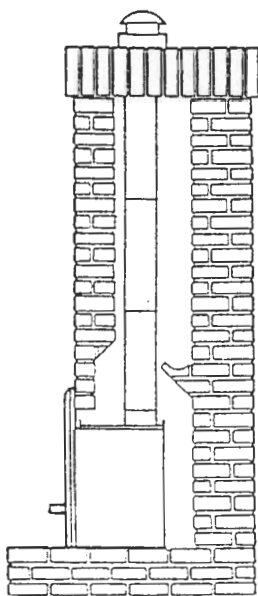

Fig. 1 FIREPLACE WITH LINER
- (i) As an insert in an existing solid fuel type fireplace with a chimney and 4" dia. liner (see fig. 1).